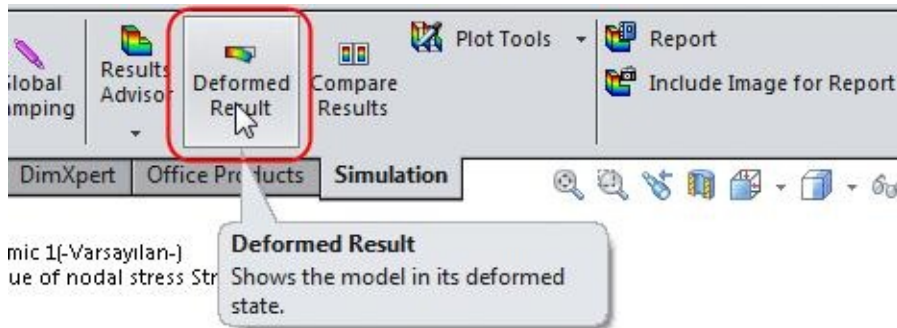

Figure-8. Deformed Result button
- You may need to deselect the **Deformed Result** button from the **Ribbon** to check the non-deformed result; refer to Figure-8.